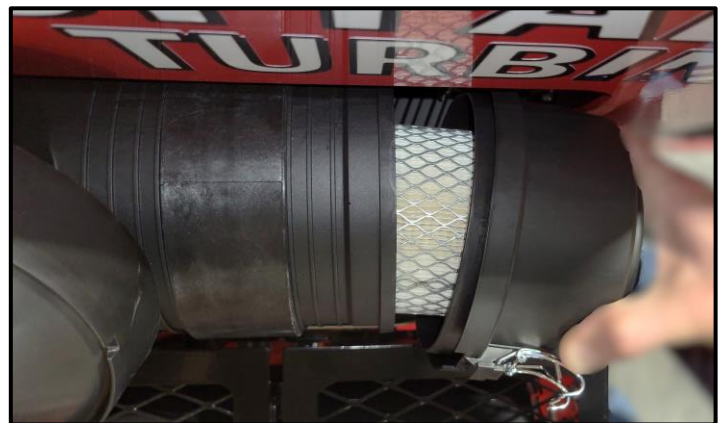

Figure 2 Air Filter Removal Process
3. Remove the end cap from the air cleaner and pivot it to slip by the front panel using the process shown. [Figure 2]